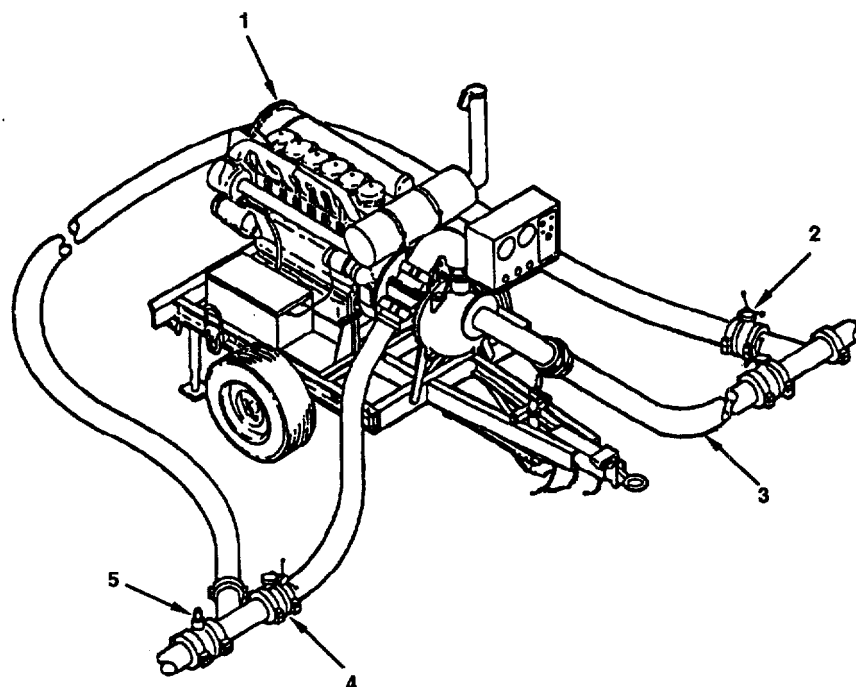

Figure 2-3. Operator's Controls and Indicators for TWDS Boost Pumping Station.
2.1.3 Boost Pumping Station. See figure 2-3 and table 2-3.